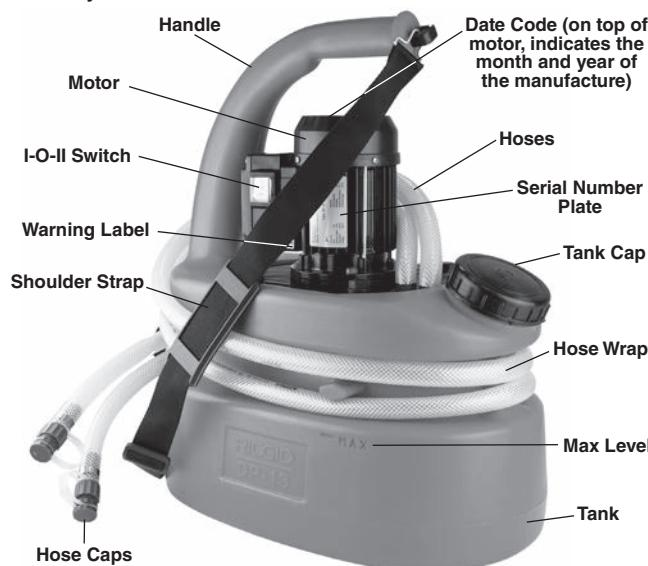

Figure 1 – RIDGID DP-13 Descaling Pump
- Presence and readability of the warning label (See *Figure 1*).